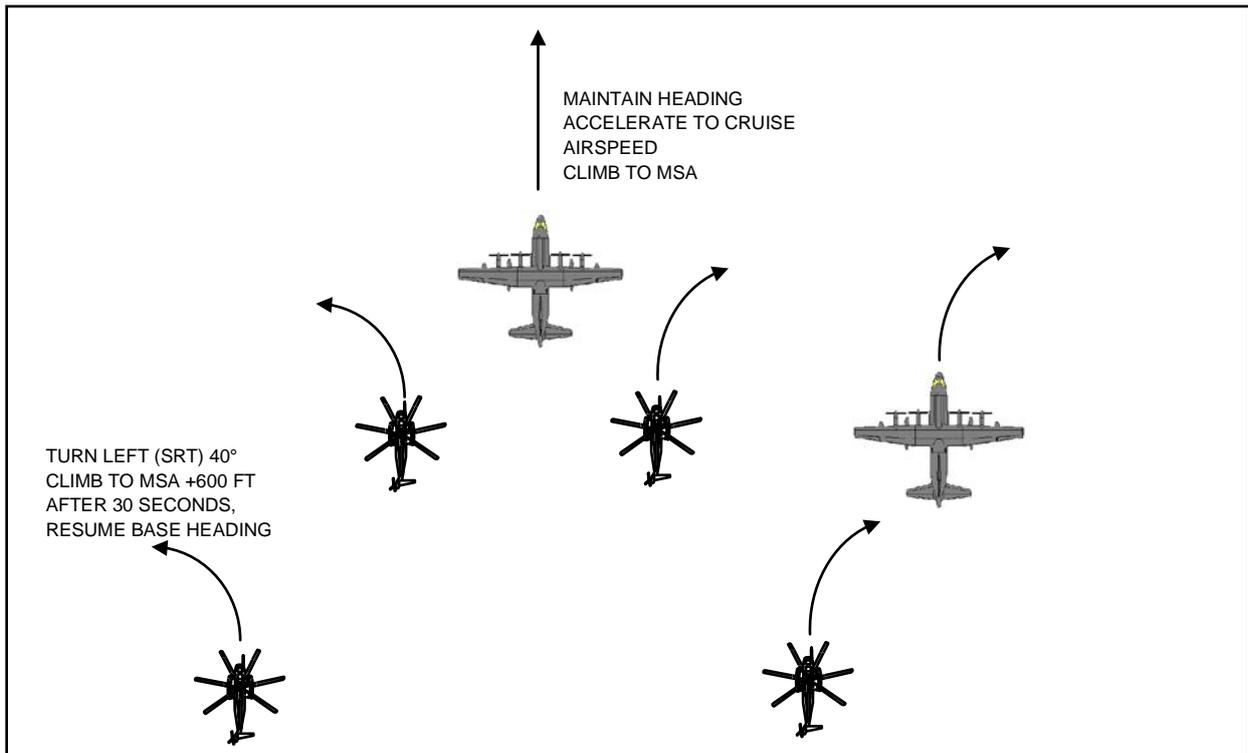

Figure 3-7. - Lost Visual Contact/Simultaneous Refuelling/Non-Mountainous Procedure
- (d) **Simultaneous Refuelling Operations.** For simultaneous refuelling operations (Figure 3-7), make the following changes to the procedures in para. 3.29(1)(a)(i): After “LOST VISUAL CONTACT” is called: